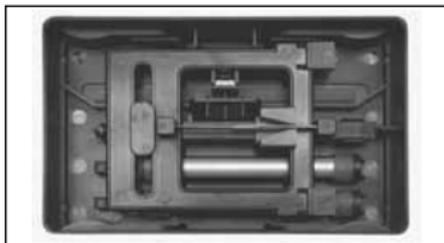

Figure 7.
You can remove the blade guide assembly from the support base by pushing with one finger to move the retaining lock tab (12) under the sharpener adjacent the post mounting hole, as in Figure 7. Move this locking tab as shown as you pull up steadily on the mounting post and the post will release. Lower the spring
tensioner (8) on the knife guiding assembly to its bottom position. Note that the right side of the knife guiding assembly must fit between the lock tab (12) and the two standing ribs on the right. Insert the guiding assembly on top of the rods with the spring assembly facing up. Insert the bottom end of the assembly's post between the two large snaps (adjacent the top end of the sharpening rods), then lower and press the top end of the assembly down and into position as shown in Figure 7. When this is completed the bottom cover will fit and snap securely in place onto the bottom. You can lower the opened hand guards by pulling them slightly upward, laying them flat and then sliding forward to a locked position.